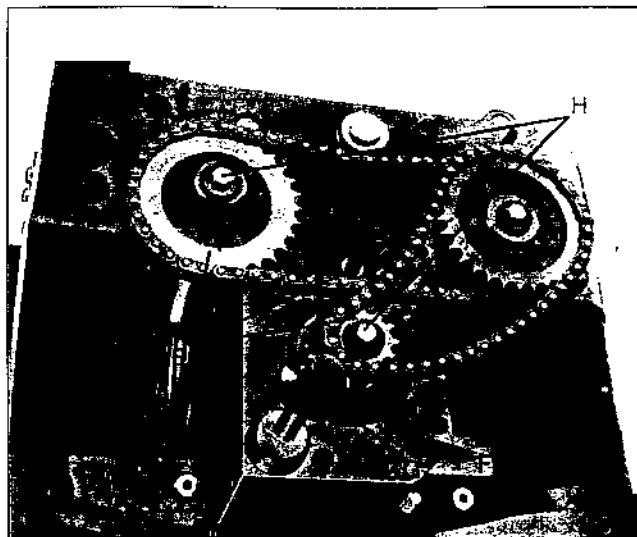
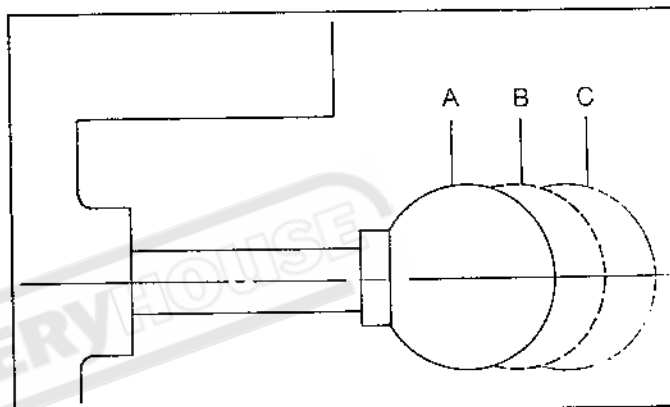

Fig. 33
Fig. 34
Your machine is equipped with a spiral, serrated infeed roller and a solid steel outfeed roller. When the feed rollers are engaged, they turn to feed the stock. The Feed rollers slow automatically when the machine is under heavy load for best planing under all conditions. The feed rollers are driven by chains (D) Fig. 33 and the sprockets (E), which takes power directly from the cutterhead through the oil bath gear box (F) Fig. 33.
There are two feed speeds in the gear box by using the shift lever (G) Fig. 33 to pull out or push in, and the feed speed range as shown in Fig. 34.
Shift gears handle, shown as Fig. 34. There are three kinds of operations of gear box by using shaft handle to pull or push. In the position A feed roll is operating on rate 20 FPM. Shown as Fig. 16 In the position B feed roll is operating on rate 0.